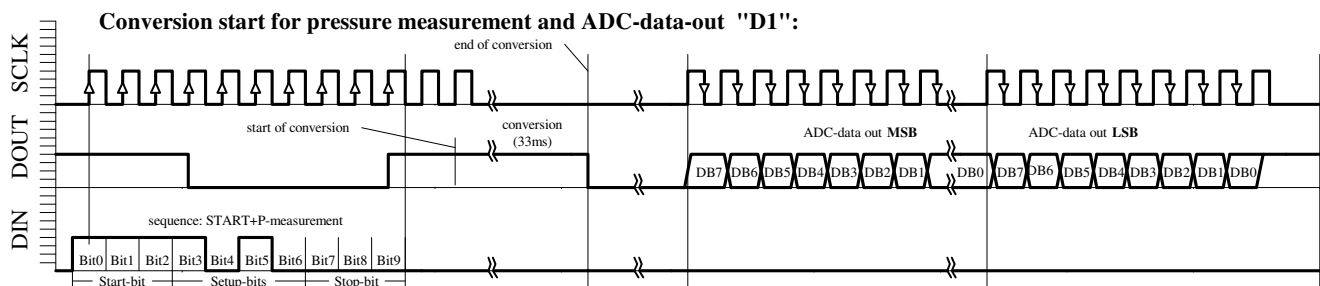

Fig. 6a: D1 ACQUISITION sequence
- Conversion start for pressure measurement and ADC-data-out "D1" (Figure 6a)